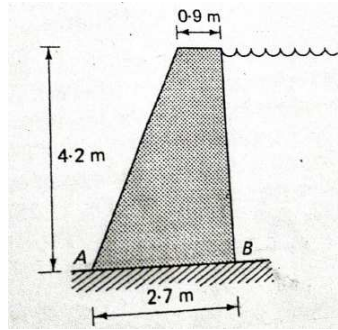

Figure 1
- c) The following diagram in Fig. 1 is masonry dam, it retains water against the vertical face. Examine the stability condition of the dam with respect to tension in the joints, ground bearing pressure and sliding. The density of masonry is 2100kg/m^3 .